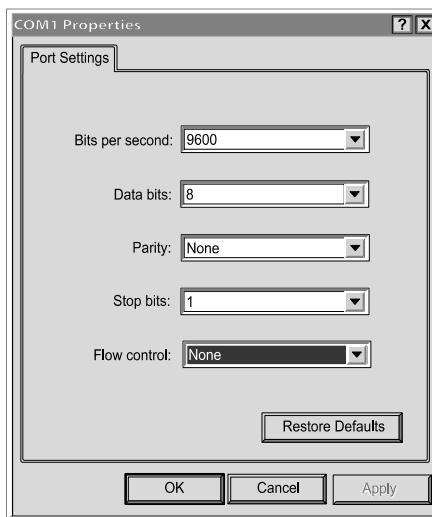

Figure 7. Configuring Port Settings
4. Set the serial line to **9600 baud, 8 data bits, no parity, 1 stop bit, no flow control** (see Figure 7).